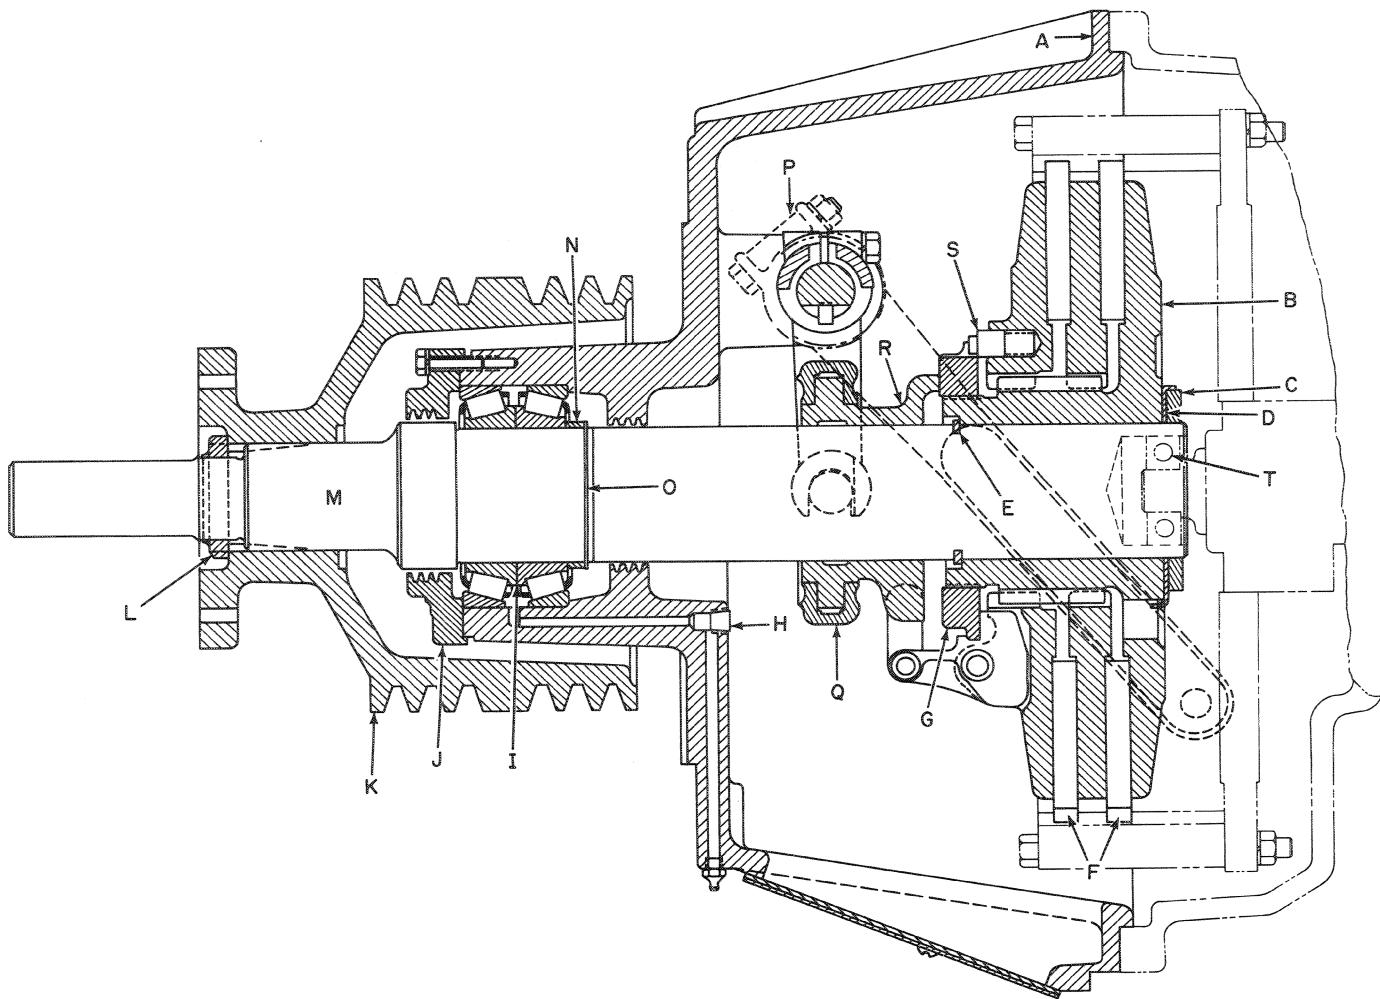

FIGURE 2-7
1. Remove nut, C, Figure 2-7, and the locking tab, D.
9. To remove the fiber gears, F, Figure 2-7, unscrew the adjusting nut, G.
ASSEMBLY (Figure 2-7)
5. After the shaft is pressed on, install the locking tab, D, and nut, C, Figure 2-7. The nut should be tightened securely. Then bend the locking tab up against the nut.